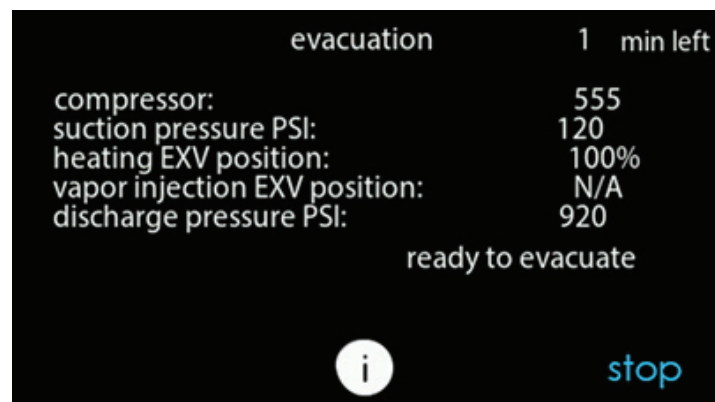

Fig. 25 – Evacuation Status Screen
5. Begin evacuation or refrigerant recovery as required for the procedure after UI indicates the EXV is open. Power may be removed from heat pump after the UI indicates "READY TO EVACUATE." See Fig. 25.